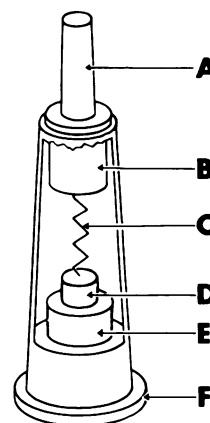

Figure 5H.—Crystal rectifier.
57. The silicon crystal in the crystal rectifier shown in figure 5H is the part labeled
58. The change from alternating current to rectified current takes place as the current passes between the parts of figure 5H labeled